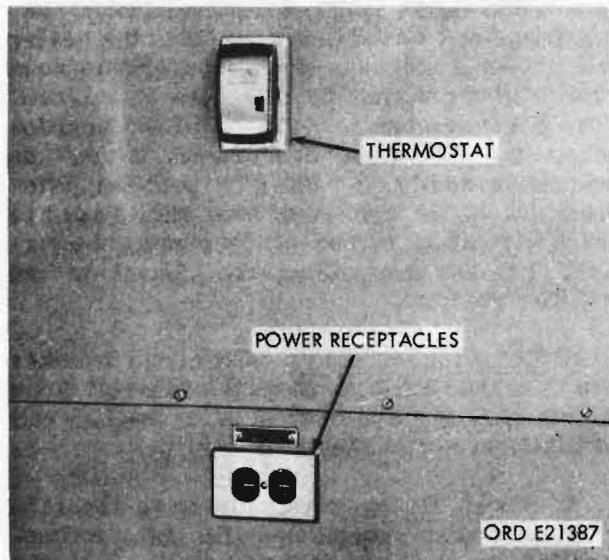
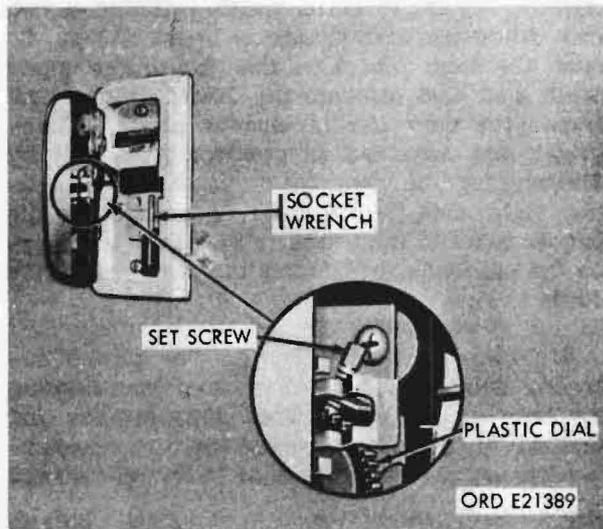

Figure 141. Power receptacles and heater thermostat - left wall
Figure 143. Heater thermostat adjustment
d. **Power Receptacles.** Power to the 115-volt ac power receptacles (fig. 141) is controlled by the circuit breaker No. 1 in the multibreaker assembly (fig. 90).
h. Heater Thermostat. The heater thermostat (fig. 141) controls heat output from the van body space heater. The amount of heat supplied is controlled by setting the plastic dial under the thermostat front cover to the temperature desired. The dial may be locked at any given setting. To lock the dial, open the front cover and remove the socket wrench provided with the thermostat. With the wrench, turn the hex-head setscrew down until the dial is stationary (fig. 143).